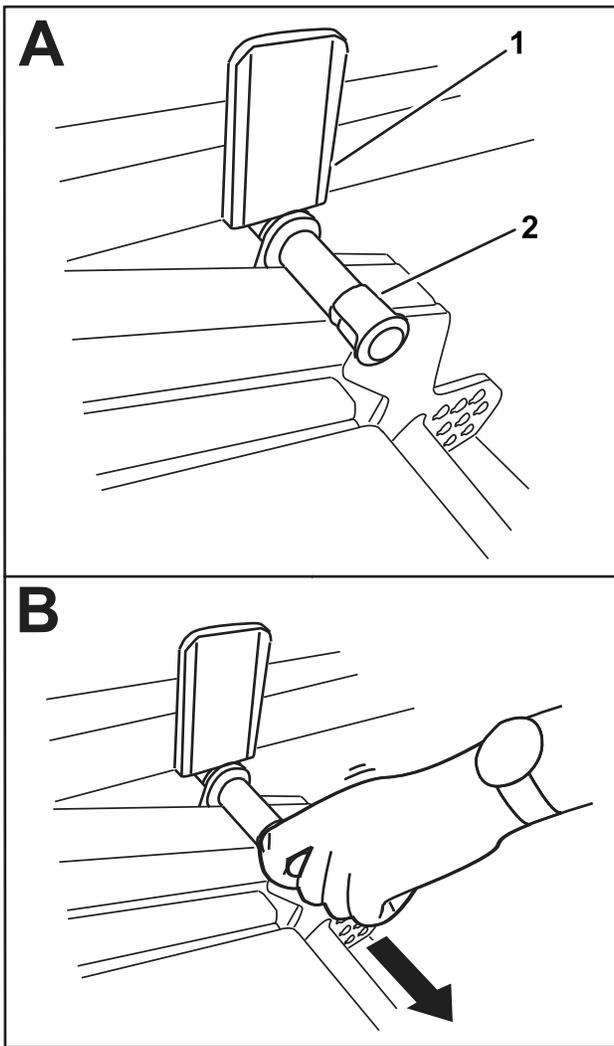

Figure 39
2. Slowly rotate the cutting unit down until the pin contacts the lift-arm plate (A in Figure 39).
3. Use your foot to press down on the cutting unit, then pull out on the pin (B in Figure 39) to let the cutting unit settle into the TRANSPORT position.